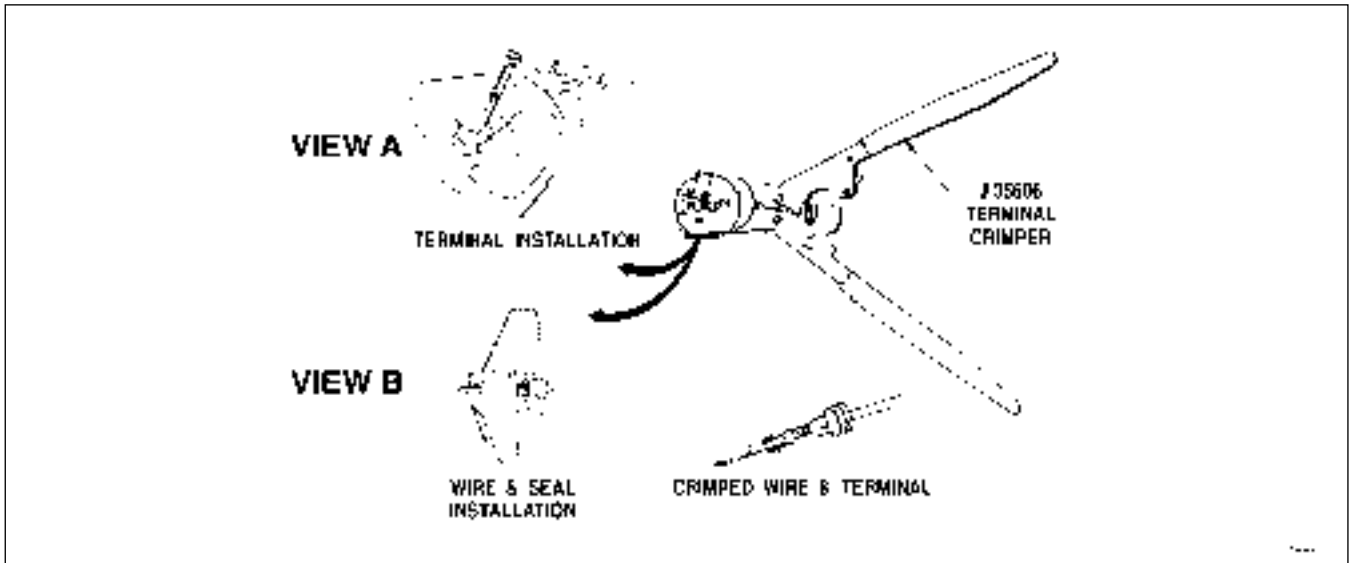

Figure E-7. Terminal Crimping With Tool J 35606
3. Insert terminal into crimping tool J 35606 (Figure E-7, View A), opening marked 18-20.
6. Slide the wire seal to the edge of the insulation and insert the wire and seal into the terminal (Figure E-7, View B).